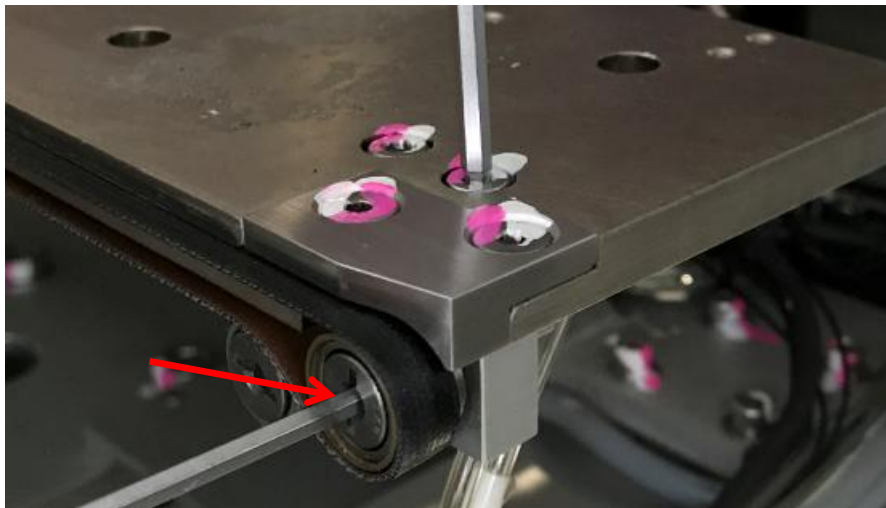

Figure 23 End Pulley Assembly
- e) Insert Allen Key to End Pulley as below Figure 23